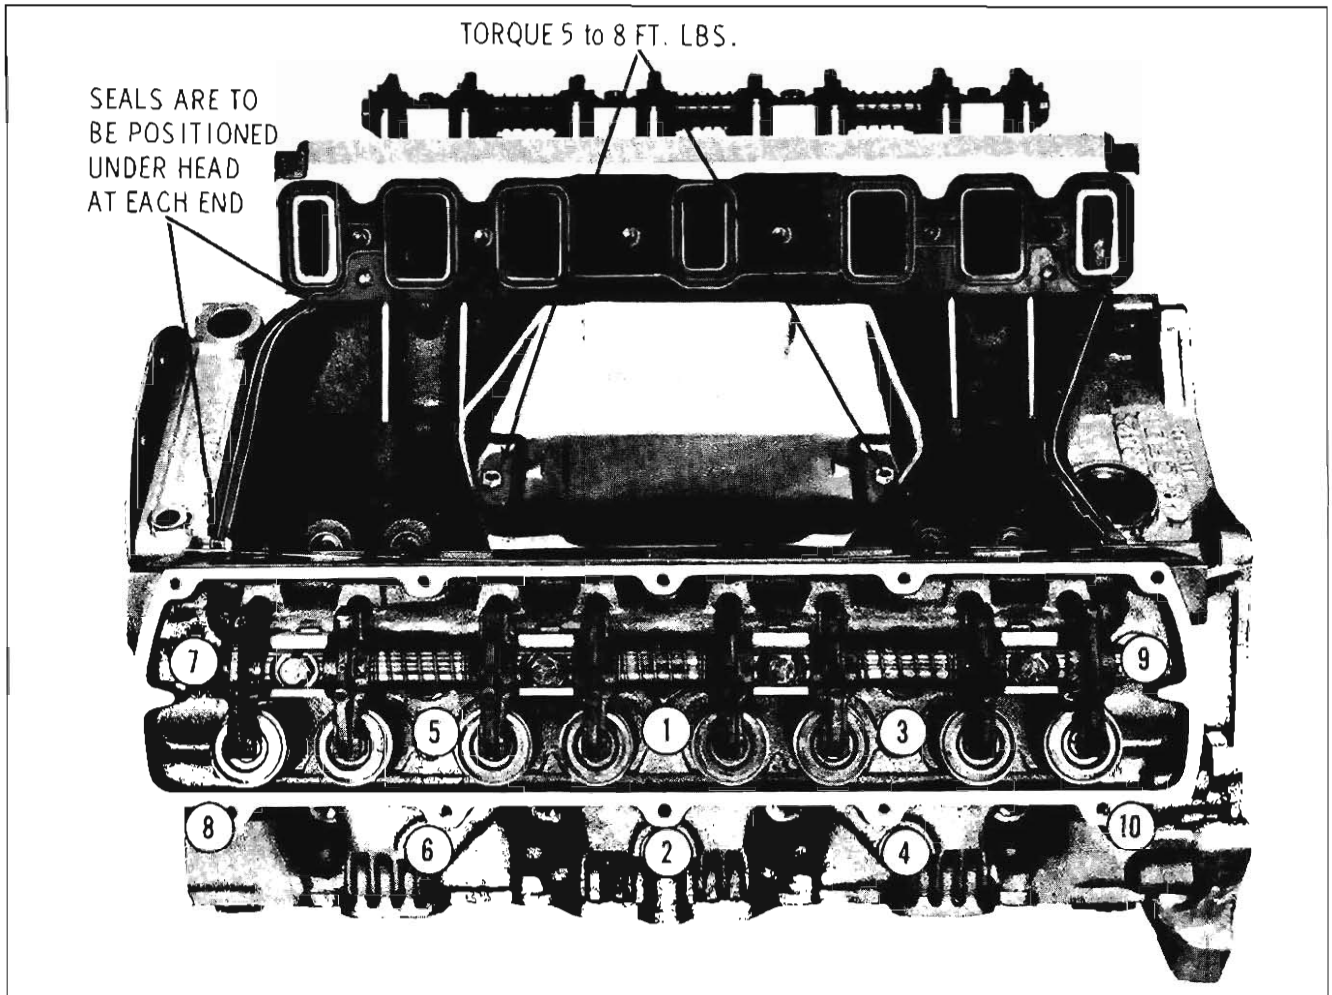

Fig. 3-403 Intake Manifold Installation
2. Install end seals, being sure that ends are positioned under cylinder heads as shown in Fig. 3-403.